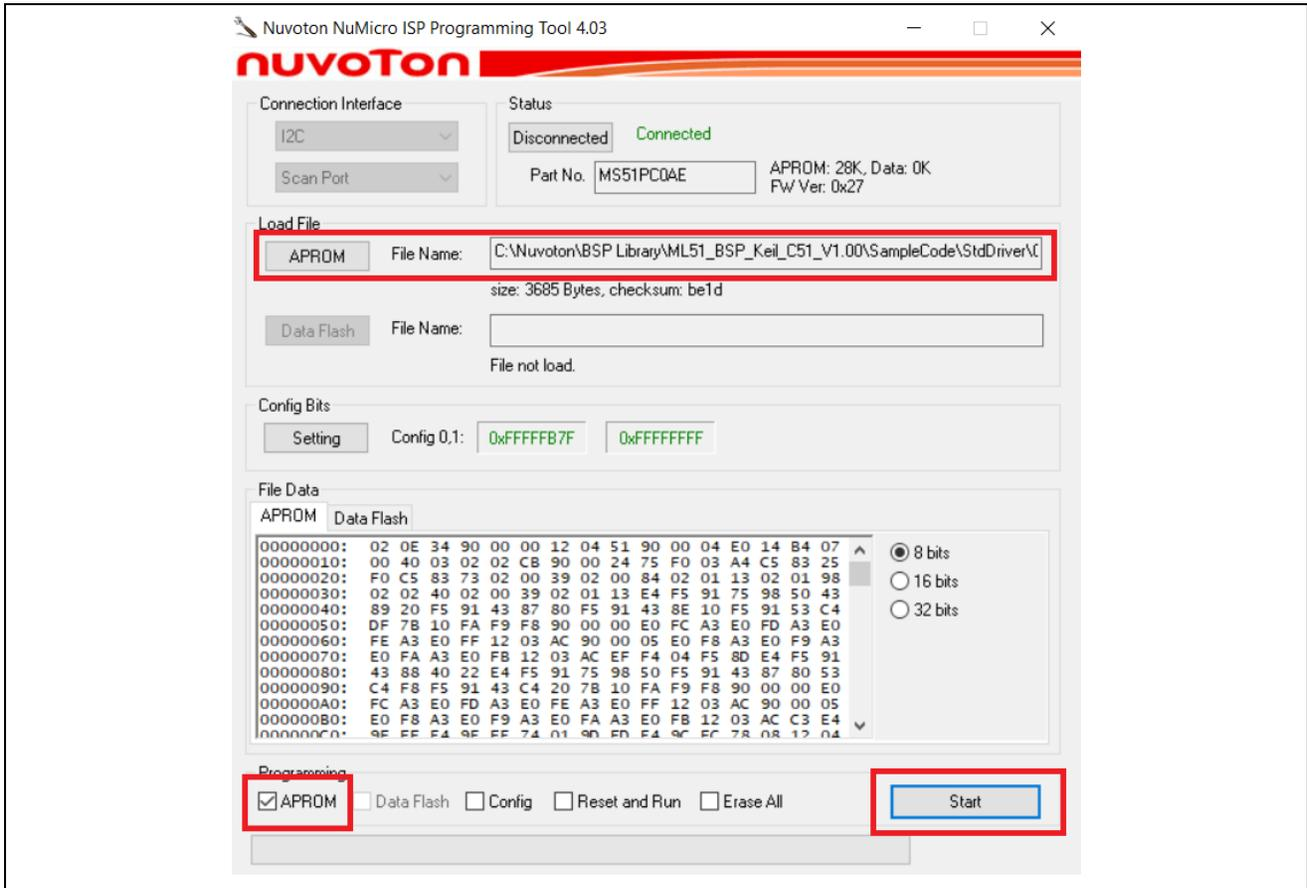
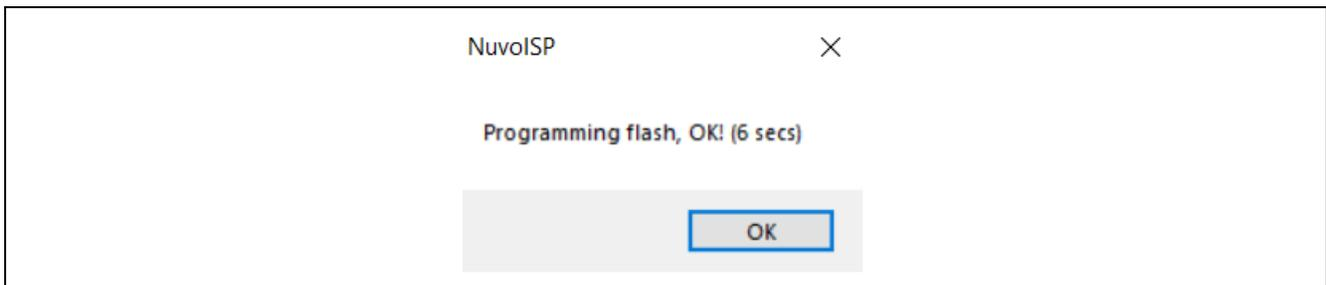

Figure 4-14 Programming File Selection Window
Figure 4-15 Programming Completion Window
- (4) As shown in Figure 4-14, select the required “.bin” file to program APROM, and tick the radio button next to the memory location aimed to program, which is APROM in this case.
- (5) Click the **Start** button to start programming.
- (6) As shown in Figure 4-15, click the **OK** button in the Programming Completion Window to complete the operation.